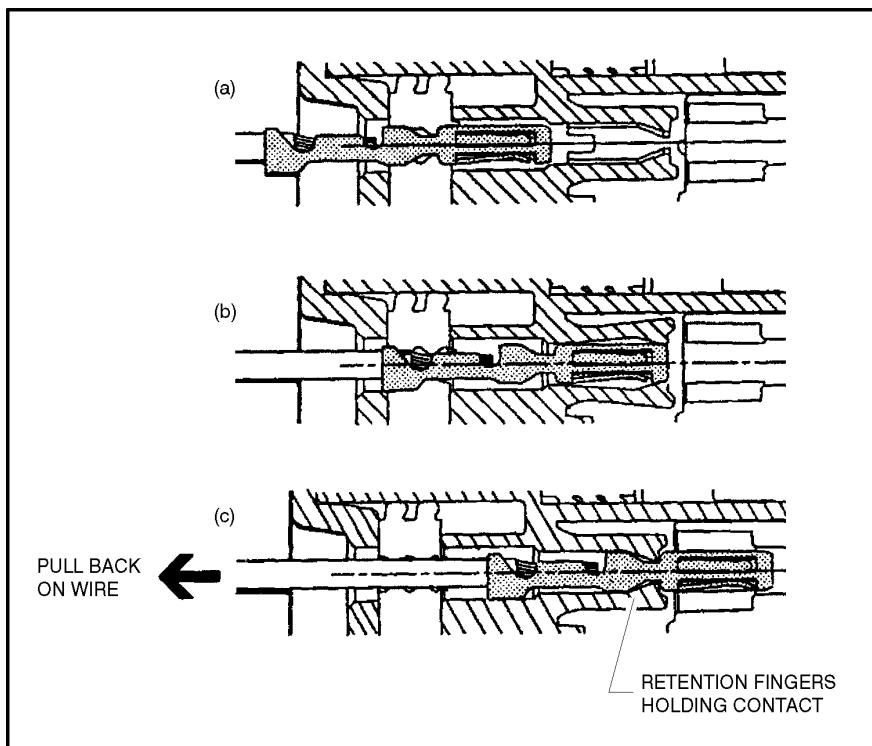

Figure 7-13. Connector Assembly Figure 2
2. Pull back on the contact wire with a force of 1 or 2 lbs. to be sure the retention fingers are holding the contact (See Figure 7-13.).
1. To insert a contact, push it straight into the appropriate circuit cavity as far as it will go (See Figure 7-13.).